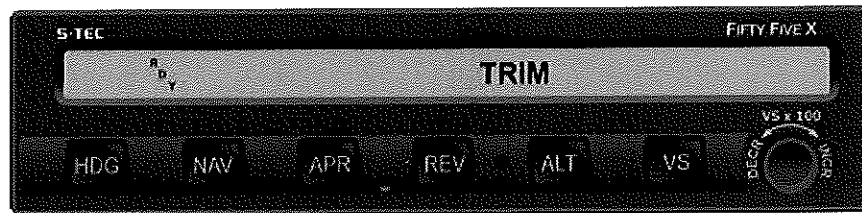

Fig. 2-15. AP Display, Manual Electric Trim In Progress (Pre-Flight)
52. Press/Hold forward on both segments of Manual Electric Trim Switch.	Elevator Trim Wheel runs nose down at full speed, and TRIM annunciation appears flashing as shown in Fig. 2-15.
56. Press/Hold aft on both segments of Manual Electric Trim Switch.	Elevator Trim Wheel runs nose up at full speed, and TRIM annunciation appears flashing as shown in Fig. 2-15.